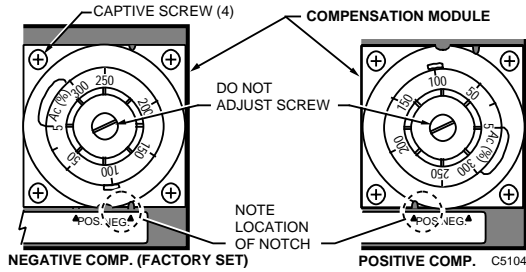

Fig. 5. Changing from negative to positive compensation.
1. Loosen the four compensation module screws (Fig. 5).